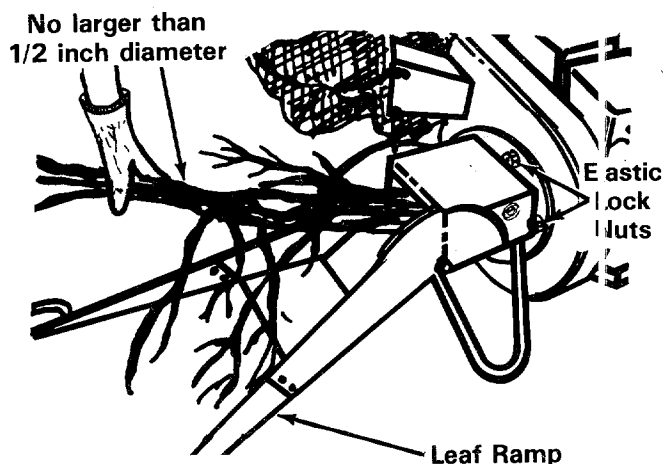

FIGURE 13.
Small branches can also be fed into the leaf ramp. See figure 13.
3. Remove the four elastic lock nuts from the back of the housing using a 1/2" wrench. Refer to figure 13. Separate the shredder into two halves.